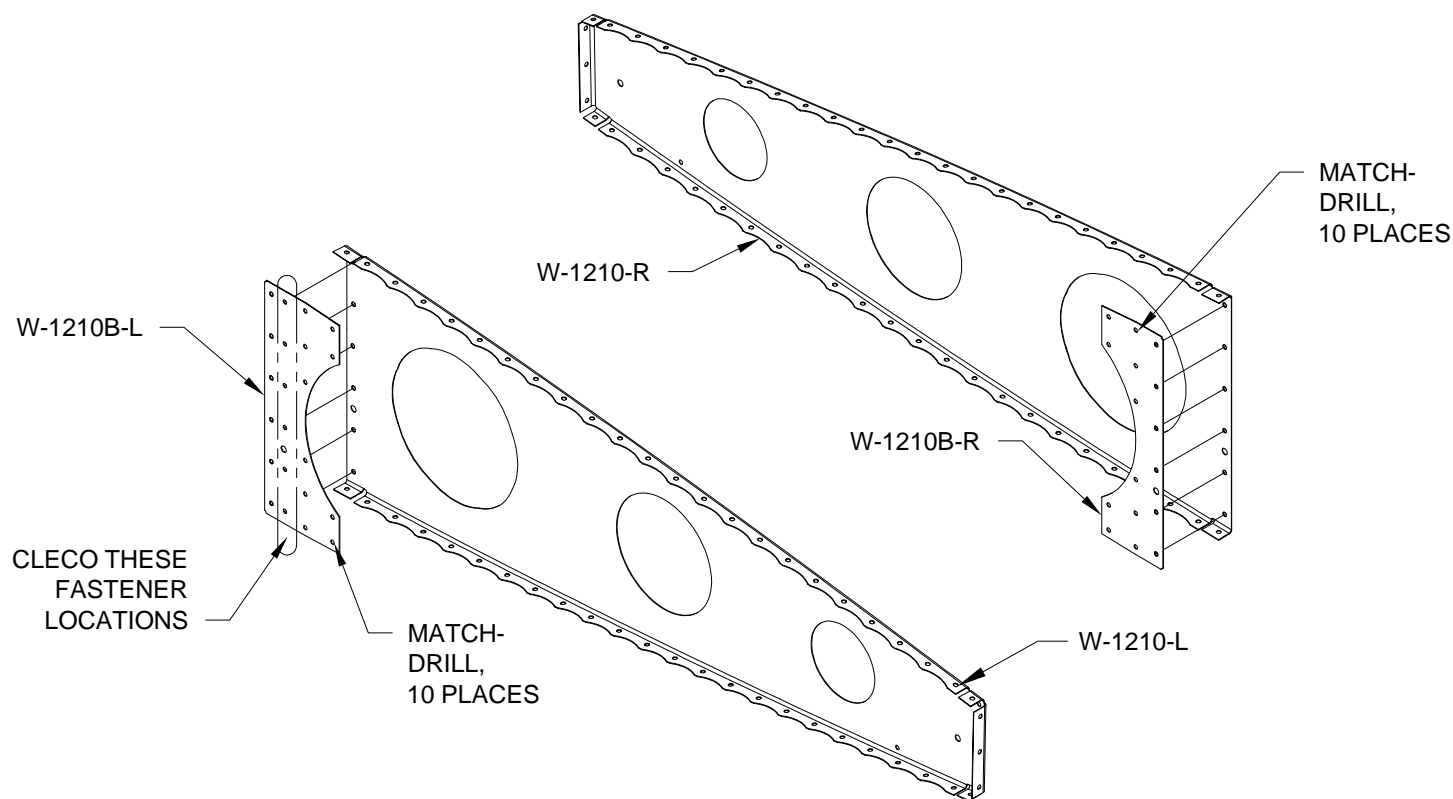

FIGURE 2: MATCH-DRILLING THE RIB DOUBLERS AND MAIN RIBS
Step 4: Cleco the W-1210B-L Rib Doubler to one of the six trimmed W-1210-L Main Ribs as shown in Figure 2. Match-Drill #30 the trimmed main rib using the rib doubler as a drill guide. Uncleco the main rib and rib doubler. Deburr.
Step 5: Select one of the W-1210-R Main Ribs and cleco the W-1210B-R Doubler as shown in Figure 2. Match-Drill #30 the main rib using the rib doubler as a drill guide. Remove the clecos and rib doubler. Deburr.